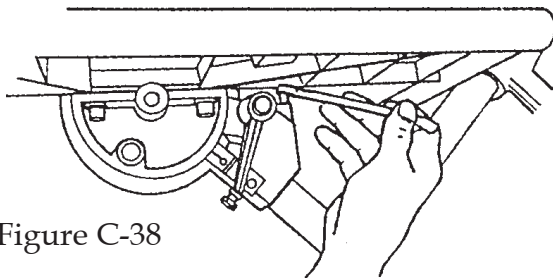
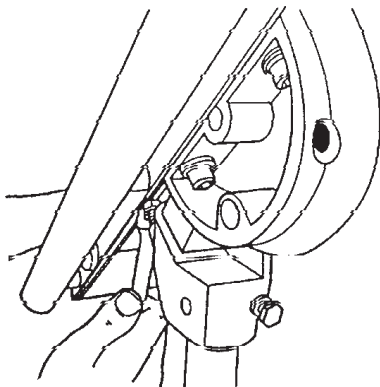

Figure C-38
Figure C-39
37. Tighten the tilt lock, then use a 1/2" wrench to adjust the 45° stop on the front side of the worktable (shown in Figure C-38) and the back side of the worktable (as shown in Figure C-39). The stops should just contact the underside of the table.